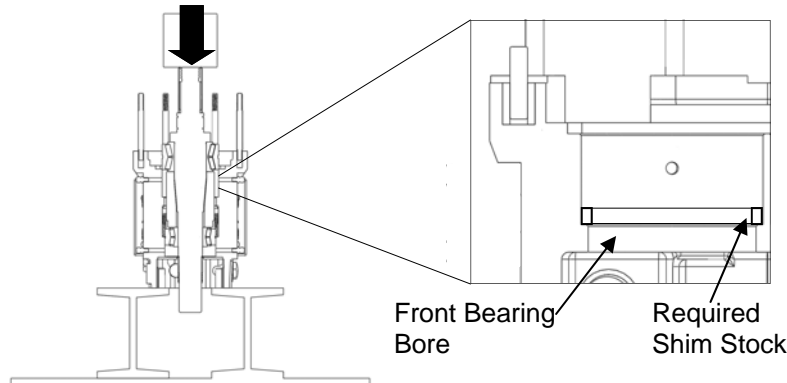

Figure 39: Pressing Shafts into Gear Case
4) Set the gear case on a press with the fluid end side facing up. Place the required thickness of shim stock so it sits on the shoulder of the front shaft bore of gear case. Apply lubricant to the outside of the bearings. Place shaft assembly (one shaft at a time) in the gear case with the rotor end facing up. Making sure that the drive and the short shafts are in the correct bores, press the shafts into the gear case until bearings are fully seated (Figure 39). See Table 4 on page 20 for the required force.